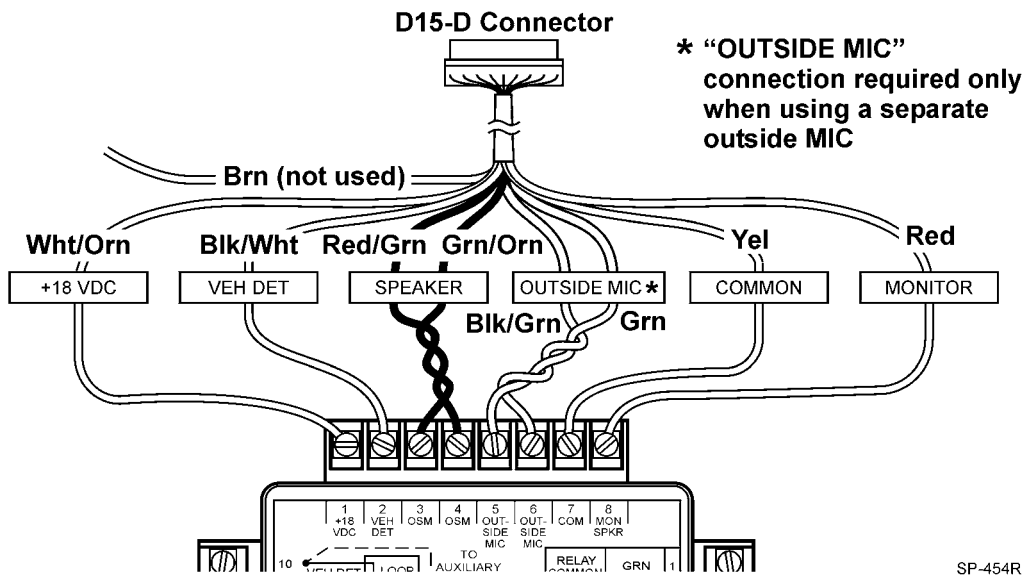

Figure 8. D-15D (M478 DA) Connections
1. Connect the auxiliary intercom to the “TO AUXILIARY INTERCOM” terminals on the interconnect module as shown in Figure 8 through Figure 10 (depending on the model of intercom used).